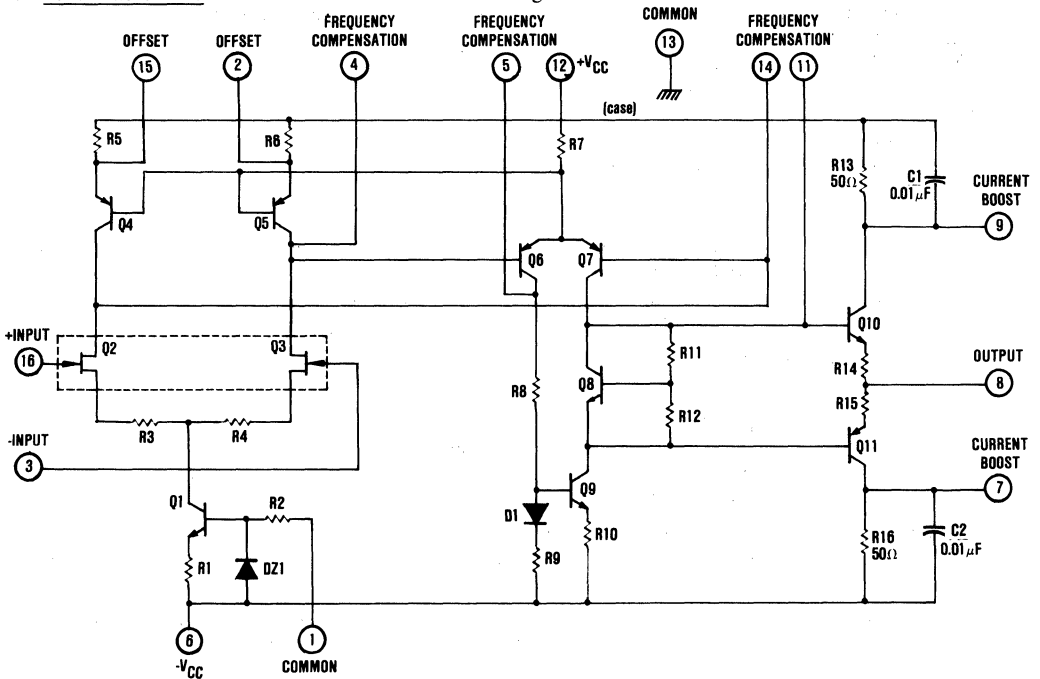

FIGURE 2. Simplified Schematic Circuit.
3.2.9 Schematic Circuit. The schematic circuit is shown in Figure 2.